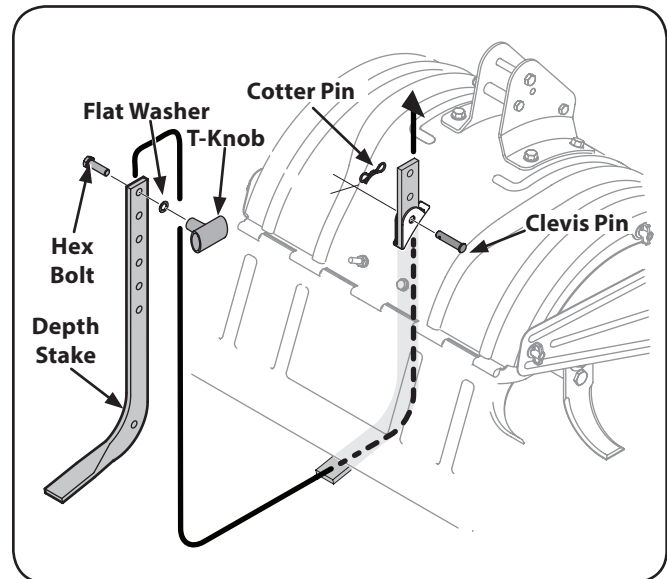

Figure 3-1
2. Un-thread the T-knob from the top of the depth stake and remove the flat washer and hex bolt. Remove the cotter pin from the clevis pin. See Figure 3-1.
5. Insert the hex bolt into the top hole of the depth stake assembly. Place the flat washer on the hex bolt and thread the T-knob onto the hex bolt. Tighten securely. See Figure 3-1.